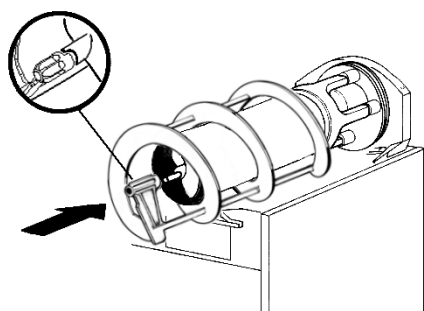

figure 15
- 6 - Install the outer spiral. Slide it over the evaporator until its front notch engages with the exposed end of the auger shaft (see figure 15).